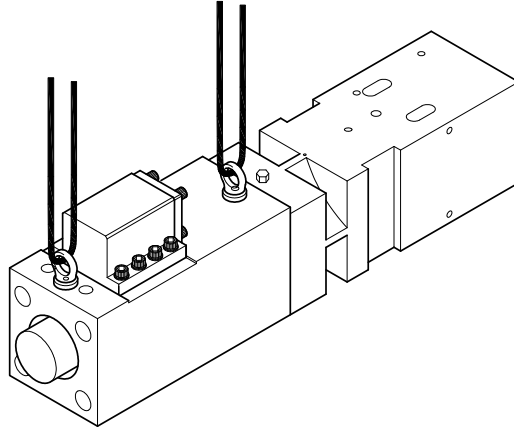

Fig. 8-5
- 5) Disassemble cylinder with eye bolt using chain block or hoist to the arrowed/pointed direction. => Fig. 8-5.